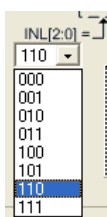

Figure 3-24
- (1) Click the network by mouse, INL can select the specified network.
- (2) Click the network switch by mouse, INL can select the specified network.
- (3) Click the mouse, a menu as Figure 3-24 will appear, and users can select the specified switch network.